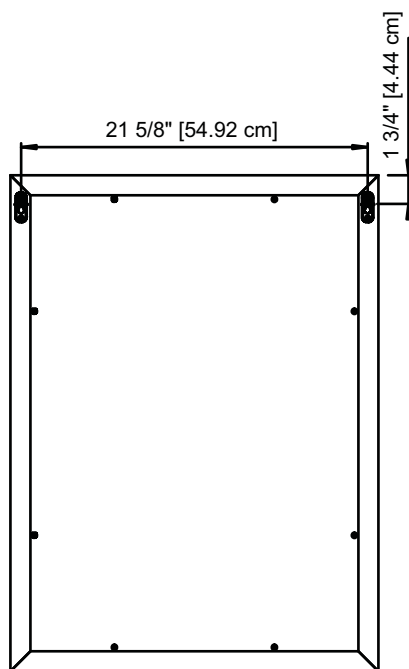

Figure 9
- Prepare wall by drilling, then inserting Anchors at desire mounting location of **Mirror (O)**.
- Attach **Wall Screw (H)** to anchor leaving approximately 3/8" (0.95 cm) of screw revealed.
- Refer to Figures 9 and 10.